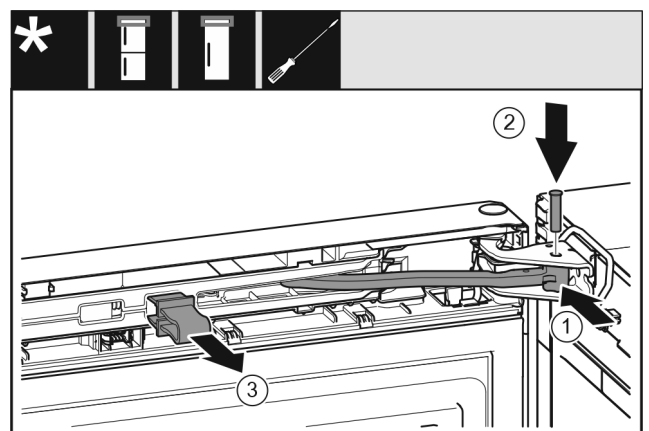

Fig. 23
- Turn the hinge in the bearing bracket. Fig. 23 (1)
- Insert the bolt in the bearing bracket and hinge. Make sure that the latching lug is sitting correctly in the groove. Fig. 23 (2)
- Remove the locking device. Fig. 23 (3)